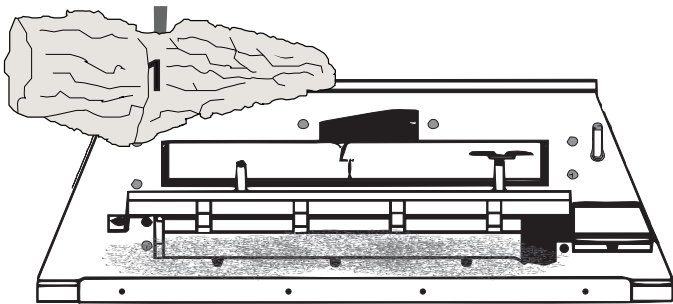

Figure 20 - Log #1 Placement
2. Place Log #1 on the left-hand side of the burner assembly by positioning the pin locator hole onto the log pin on the left-hand side of the burner. When in place, make sure the flat back is flush against the back of the burner assembly. See Figure 20.